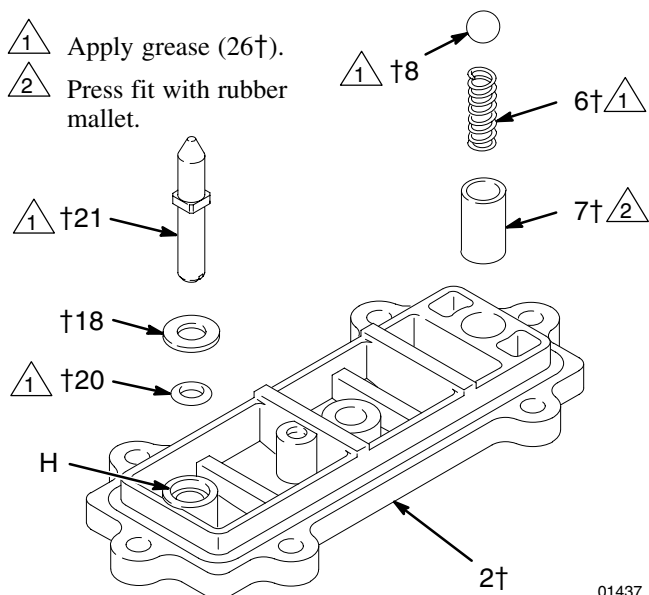

Fig. 12
1. *If the detent collar (7) was removed*, carefully install a new collar in a new cover (2), using a rubber mallet. See Fig. 12.
2. Grease the spring (6) and place it in the collar (7). Grease the ball (8) and set it on the spring.
3. Grease the o-ring (20) and install it in the hole (H) in the cover (2). See Fig. 12. Slide the washer (18) onto the blunt end of the reset shaft (21). Insert the shaft through the cover (2) until it seats.
4. Grease the spring (3). Place the link stop (4) inside the spring.
5.  Squeeze the spring (3) and install it and the stop (4) in the link assembly. The spring tension will hold all these parts together. Grease the valve cup (5) and install it in the link assembly as shown.
6.  Install the link assembly on the cover (2) so the pointed end of the reset shaft (21) fits through the holes in the links and the square part of the shaft engages the square hole. Make certain the bumps on the detent link (22) engage the ball (8).